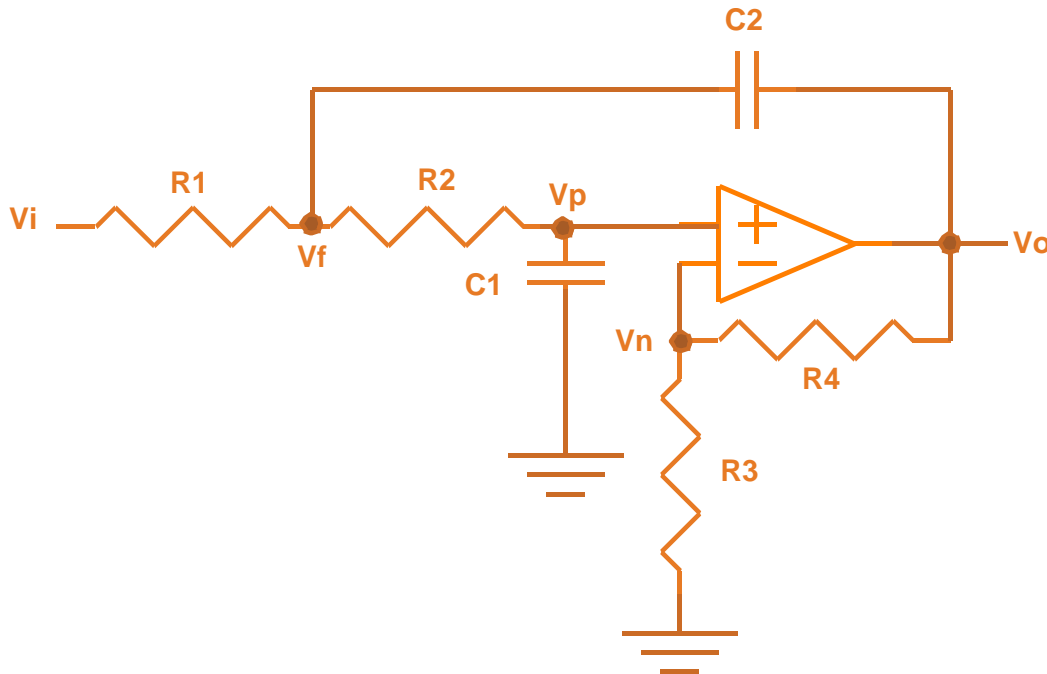

Figure 1. Low Pass Sallen-Key filter.
You will design, analyze, simulate, and test the circuit in Figure 1.
The starting point of all transmit filters in ADSL modems is the basic Sallen-Key filter depicted in Figure 1. It has a minimum number of components and is simple to design. The standard
For the circuit in Figure 1 with power supplies  $V_{CC} = 12\text{ V}$ ,  $V_{EE} = -12\text{ V}$ , and assuming an ideal opamp, answer the following questions:
At this point, the design is completed since you have selected values for all the components of the circuit in Figure 1. Be sure to remember that the tolerance of a typical resistor and capacitor are 5% and 50% respectively.
1. Build the circuit in Figure 1 using power supplies  $\pm 12$  V and the component values from your design in the Pre-lab. Be sure to measure the exact component values, especially capacitance.
4. Use a table to store the frequency, gain, and phase shift data from the measurements in items 2 and 3 above. You will eventually overlay the experimental and analytical transfer response.